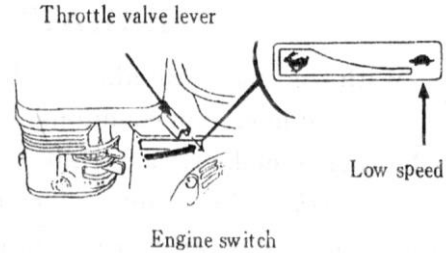

Fig. 19
1. Push right the throttle valve lever to the bottom (Fig. 19).